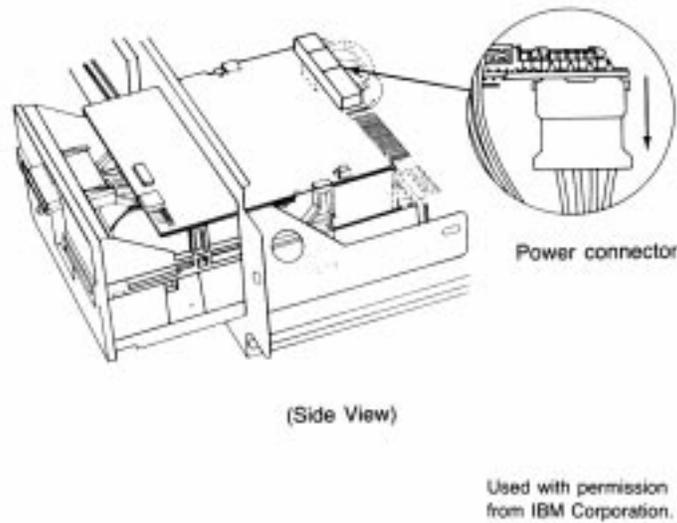

Fig. 3.6
3. Slide the disk drive forward about two inches and disconnect the power and signal cables from the drive (see figs. 3.6 and 3.7). In a correctly wired system, the odd-colored stripe on one side of the ribbon cable always denotes pin number 1. The power connector is shaped so that it can be inserted only the correct way.